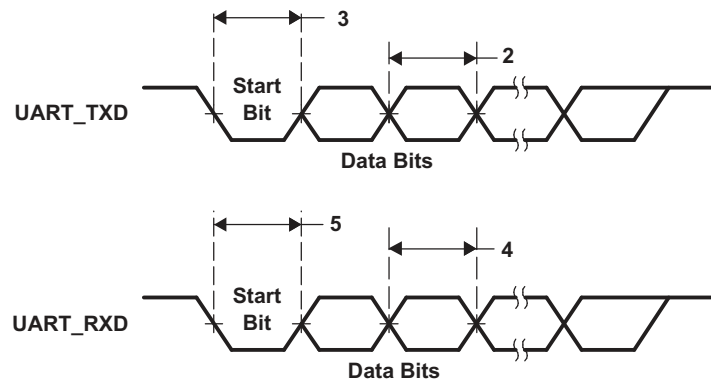

Figure 5-28. UART Transmit/Receive Timing
Table 5-31. Timing Requirements for UART Receive⁽¹⁾⁽²⁾ (see Figure 5-28)
- (1) U = UART baud time = 1/programmed baud rate.
- (2) These parametric values are measured at DV_{DDIO} = 3.3 V, 2.75 V, and 2.5 V
Table 5-32. Switching Characteristics Over Recommended Operating Conditions for UART Transmit^{(1) (2)} (see Figure 5-28)